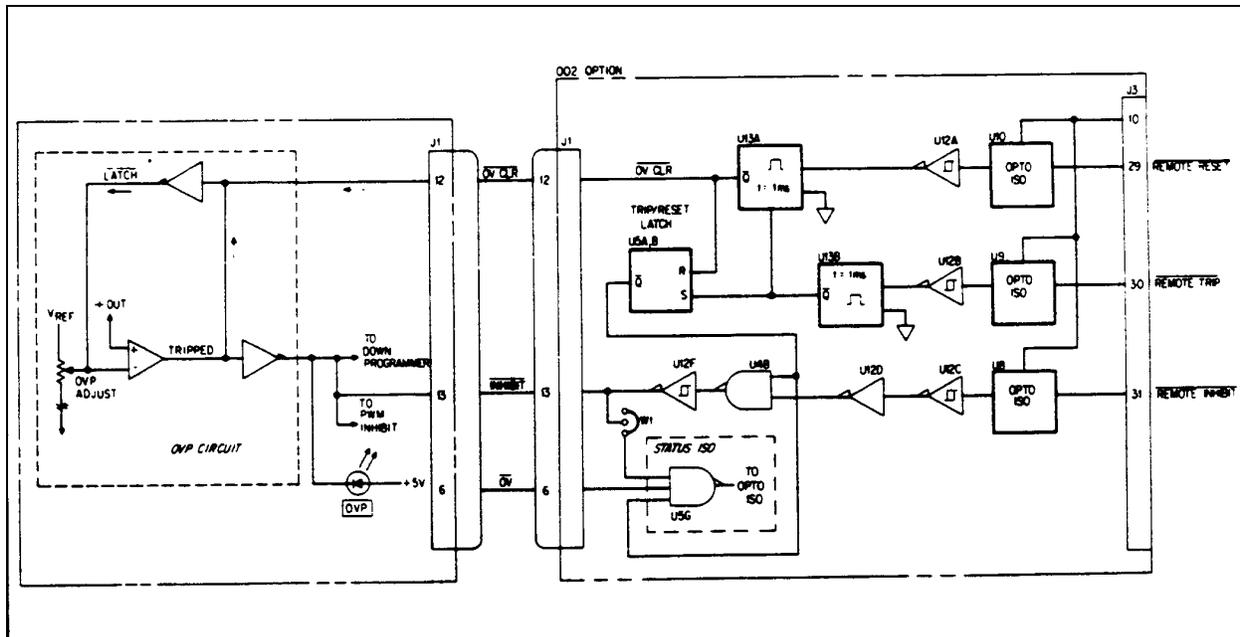

Figure A-8. Remote Control
**Remote Trip.** A negative-going edge applied to terminal J3-30 ( $\overline{\text{REMOTE TRIP}}$ ) will shut down the power supply, reducing the output voltage to near zero. For minimum pulse duration and timing considerations with respect to  $\overline{\text{REMOTE RESET}}$ , see Table A-1. The following paragraph provides a brief circuit description (see schematic diagram and Figure A-8).
**Remote Reset.** A negative-going edge applied to terminal J3-29 ( $\overline{\text{REMOTE RESET}}$ ) will return the supply to its initial state following a system-initiated shutdown or an OVP shutdown caused by a temporary over voltage condition. For minimum pulse duration and timing considerations with respect to  $\overline{\text{REMOTE TRIP}}$  see Table A-1 under Remote Control. The following paragraphs provide a brief description of this circuit (see schematic diagram and Figure A-8).
**Alternate Method of Remote Control.** The  $\overline{\text{REMOTE INHIBIT}}$  input, J3-31, provides an alternate method of remote shutdown. By maintaining a low logic level at this input, the supply's output will be inhibited until  $\overline{\text{REMOTE INHIBIT}}$  is returned to its initial high state. The following paragraph provides a brief description of this circuit (see schematic diagram and Figure A-8).
A low logic level applied to terminal J3-31 ( $\overline{\text{REMOTE INHIBIT}}$ ) is coupled through opto-isolator U8 and causes U4B to inhibit the power supply's (PWM) Pulse Width Modulator. If jumper W1 is used (see Figure A-8) while a  $\overline{\text{REMOTE INHIBIT}}$  signal is applied, an  $\overline{\text{OVERVOLTAGE}}$  signal will appear at terminal J3-17  $\overline{\text{OVERVOLTAGE}}$  thus, indicating the power supply shut down.